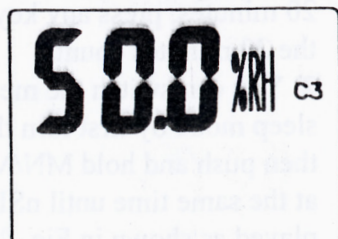

FIG 21
8. Press PRG, it will display as Fig. 21 with 5 flashing.